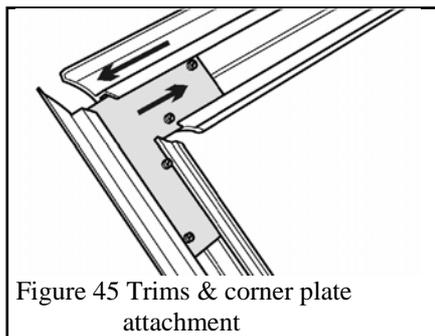

Figure 45 Trims & corner plate attachment
• Slide a corner connection plate into the channels in the top trim and a side trim. Butt the two trims together. Fit four grub screws and tighten to secure the trims and corner plate. See figure 45.